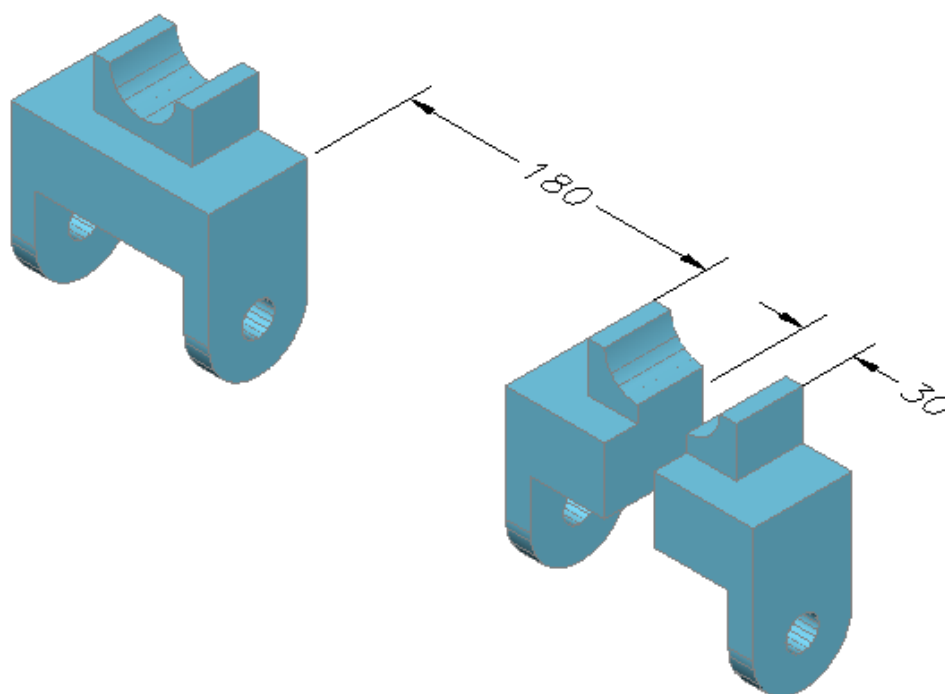

Figure Step 6
Step 6 Slice the model into two solids at cutting plane B-B. Move the two solids 30 millimeters apart. (Figure Step 6)